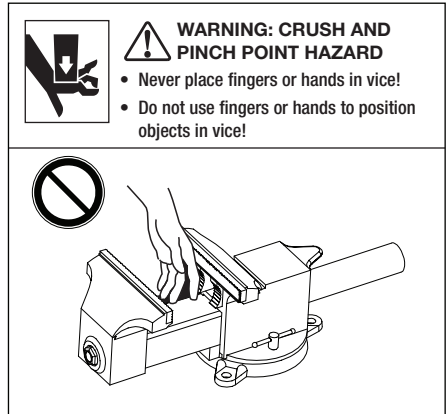

Figure 1 - Crush and Pinch Point Hazard.
- Keep all body parts, including hands and fingers, away from vice jaw clamping area during vice operation. Failure to observe this precaution may result in serious personal injury. See Figure 1.